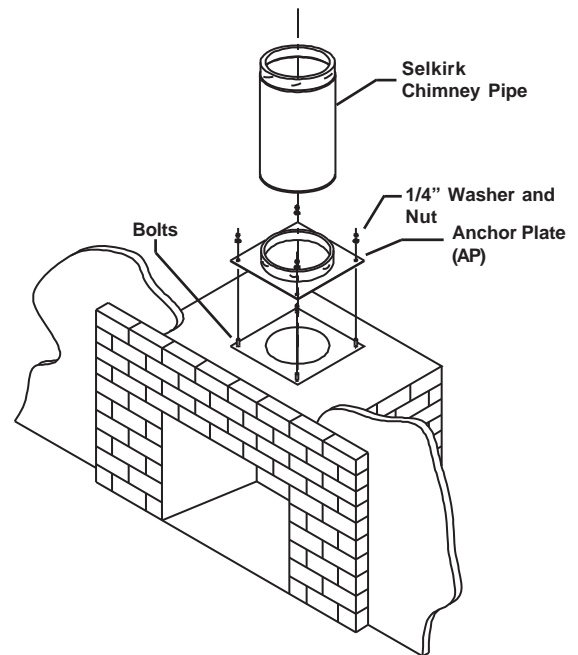

FIG. 5
1. Using the anchor plate as a template, centered over the outlet opening, drill and anchor four 1/4" diameter bolts 2" long securely into the top of the masonry fireplace. See Figure 5.